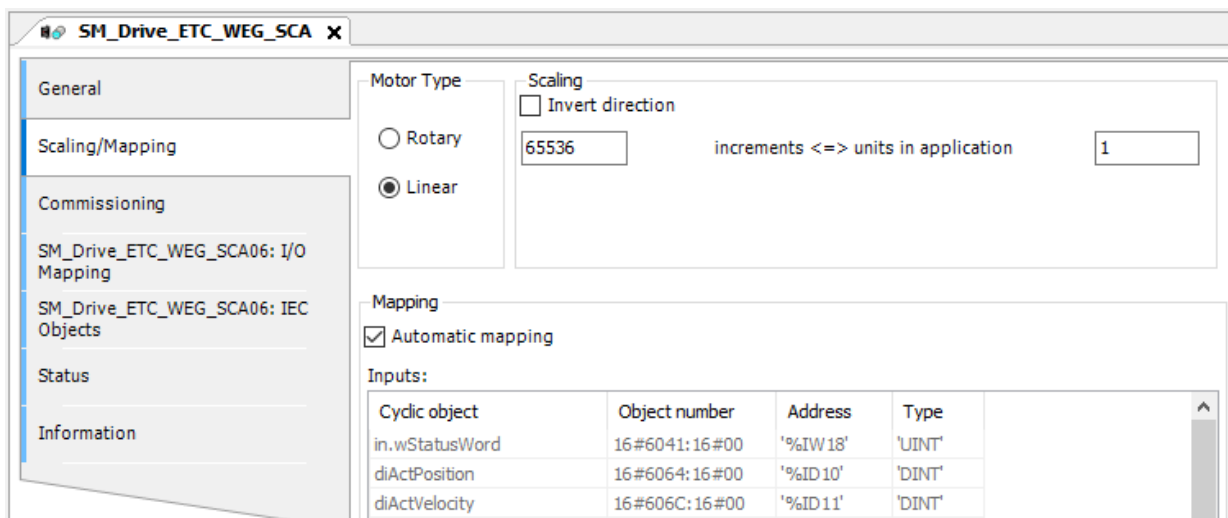

Figure 2.9: Default SM_Drive_ETC_WEG_SCA scale configuration.
- Configure the page as shown in Figure 2.9.